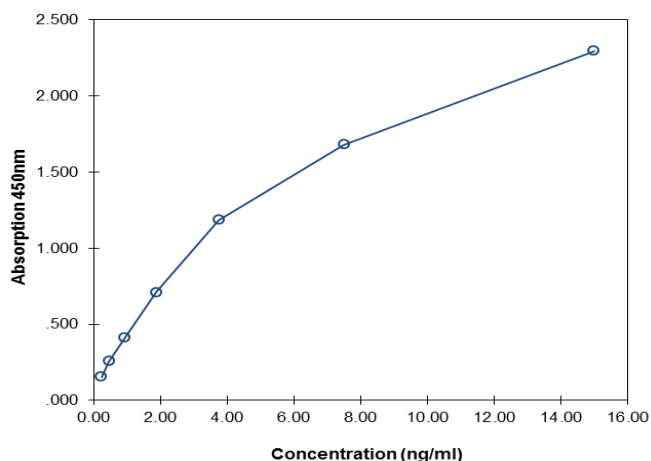

Fig. 8 Representative standard curve for Human Adiponectin ELISA Kit. Human Adiponectin was diluted in serial 2-fold steps in Assay Buffer (1x).
- A representative standard curve is shown in Figure 8.